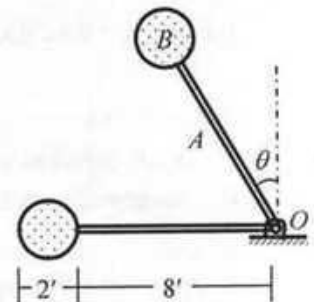

Fig. 6
8. Fig. 6 shows a rigid body *AB* (composed of uniform slender rod *A* and sphere *B*) rotating about *O*. If the rod *A* weighs 20 lb and sphere *B* weighs 100 lb, calculate the